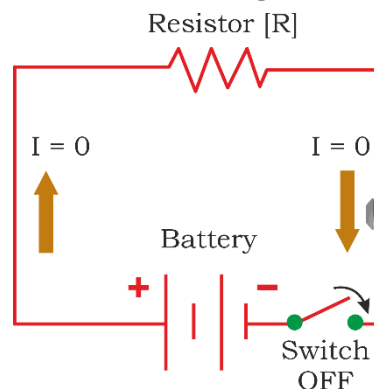

Fig. 2.4: Open circuit
Step 8. Turn ON the lamp using a switch and observe that the circuit is working properly. It is shown in Figure 2.4 and 2.5 given below.